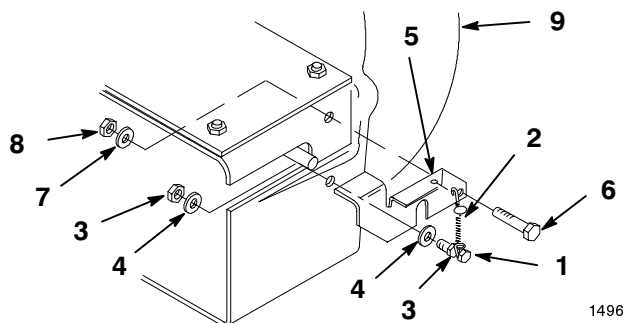

Figure 7
4. Install the long hook end of the tension spring and #10 nut onto a #10 x 3/4" (19 mm) screw. Thread the nut on within 1/8" from the head end of the screw, leaving enough room for the spring to rotate freely (Fig. 7).
5. Slide a #10 washer onto the screw and insert through the blower housing. Install a second #10 washer and #10 nut (Fig. 7). While holding the first nut, tighten the second so that the assembly is tight against the plastic housing.